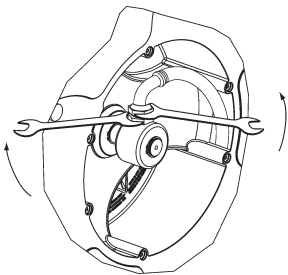
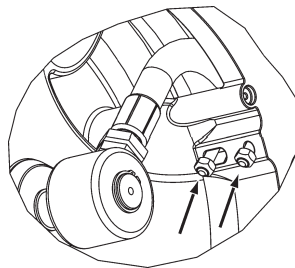

FIG 8a.
FIG 8b.
- Fix the hose to the swivel as indicated in figure 8a and fix the U bolt as shown in figure 8b.
3. Disconnect the hose as seen (Fig. 8a). Release the hose from the disk by removing the clamp (Fig. 8b).
3. Ta loss slangens från sviveln enligt (Fig. 8a) och ta bort klammern (Fig. 8b).